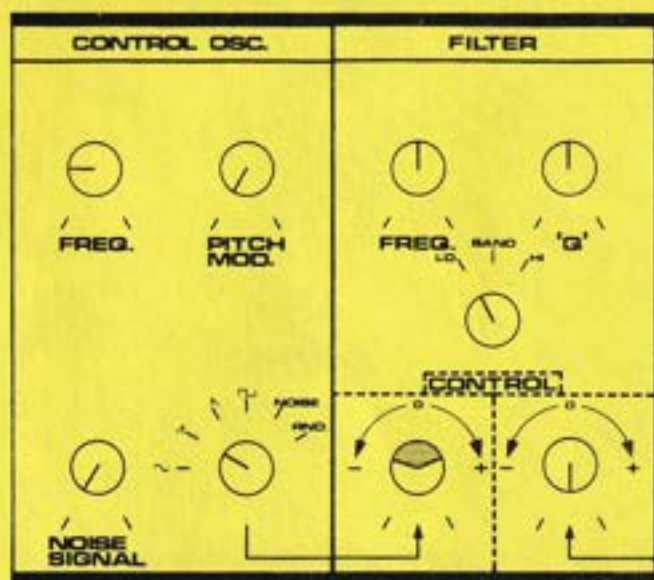

Fig. 10
In addition to modulating the frequencies of Oscillators 1 and 2 the Control Oscillator can be used to sweep the Filter frequency. The amount of modulation is determined by knob 16. Refer to Figure 10. If this knob is set in the mid position it has no effect. Rotating it clockwise will increase the amount of modulation, the shape and speed being determined by controls (10) and (13). Rotating it anticlockwise gives a similar effect but the modulation waveshape is inverted.
- (1) Set up the Control Oscillator as shown in Figure 10, with Oscillators 1 and 2 in unison on 8-foot.
- (1) Set the WASP up as shown in Figure 10, but with the oscillators off and the noise source on full.
- (2) Play the keyboard from low C up to top C. The Filter will be heard to track the keyboard. This is useful when using Oscillators 1 and 2 since it means that the way the Filter modifies the waveshape of the signal will not change over the range of the keyboard.